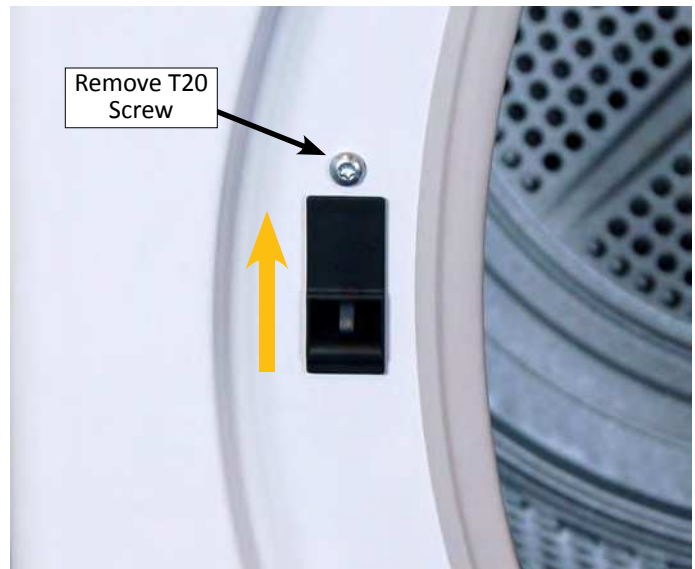

Figure 3
2. Use a T20 Torx driver to remove the one screw securing the door catch to the front panel (see Figure 3).
3. Slide the door catch upward while pulling the bottom of the catch away from the front panel (see Figure 3).